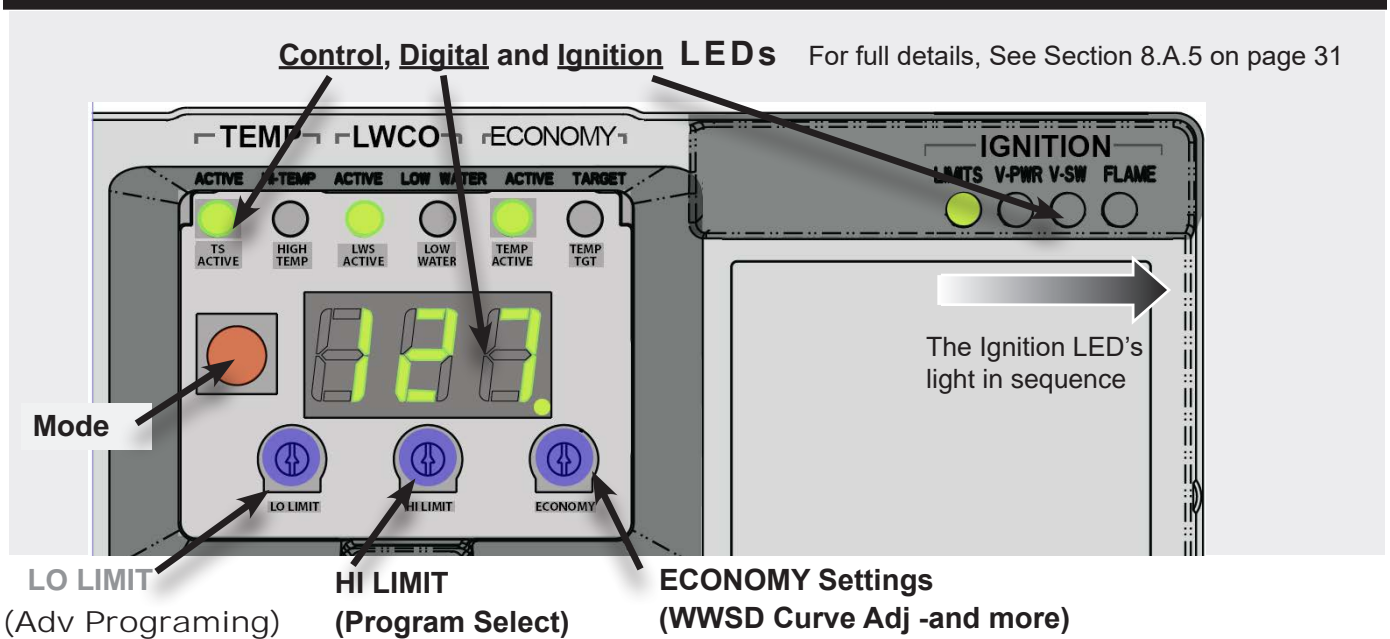

Figure 32. The Dials and Indicators of the Digital Dashboard
If you are the installer and have completed the installation (SECTIONS 1 thru 7 of this manual), the next step is to determine if your installation includes any of the **above listed items**. If Yes, then you will need to read THIS SECTION thoroughly and familiarize yourself with the Digital Dashboard. See Figure 32. Once you understand SECTION 8.A and you are familiar with the 3 dials and the Mode button, THEN continue to 8.B "Advanced Programing" on page 32
Under the removable clear cover, there are three (3) dials and one (1) button. (See Figure 32)
8.A.5 Control LEDs See Figure 32
8.A.6 Digital LEDs See Figure 32
8.A.7 Ignition LEDs See Figure 32